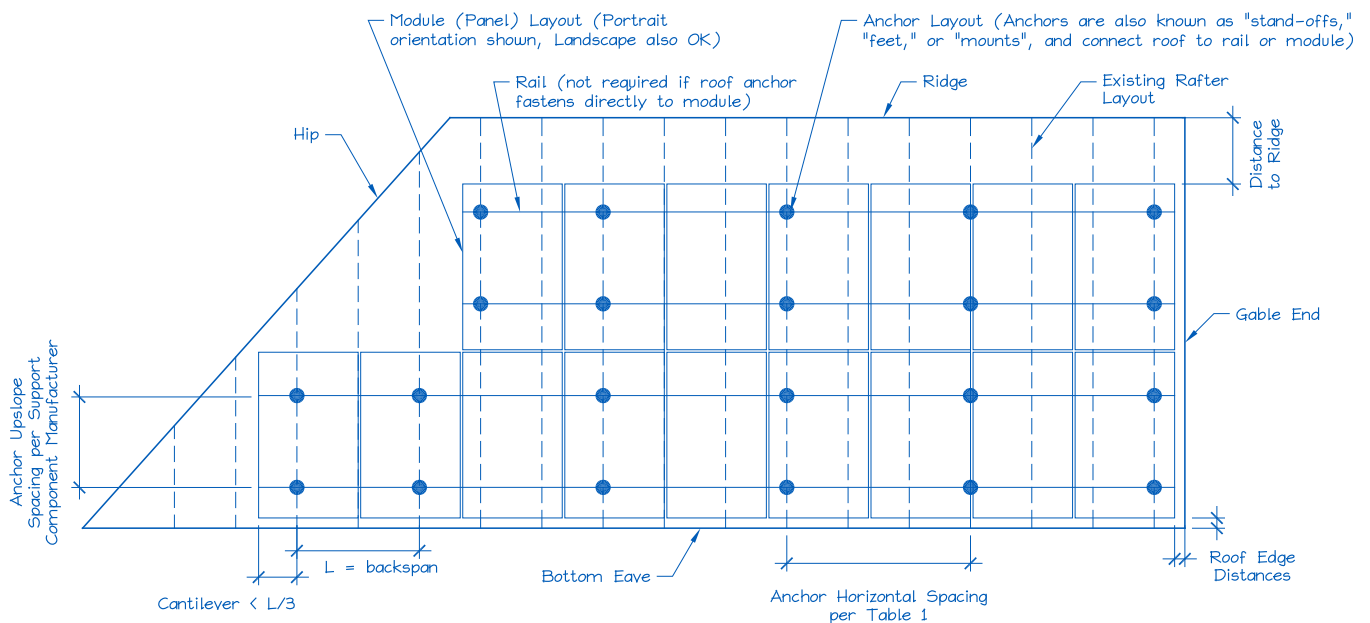

Figure 2. Sample Solar Panel Array and Anchor Layout Diagram (Roof Plan).
E. Is a roof plan of the module and anchor layout attached? (**Figure 2**)
- 1) Proposed anchor horizontal spacing (**Figure 2**): _____' - _____"ft-in
1. Anchors are also known as “stand-offs,” “feet,” “mounts” or “points of attachment.” Horizontal anchor spacing is also known as “cross-slope” or “east-west” anchor spacing (Figure 2).